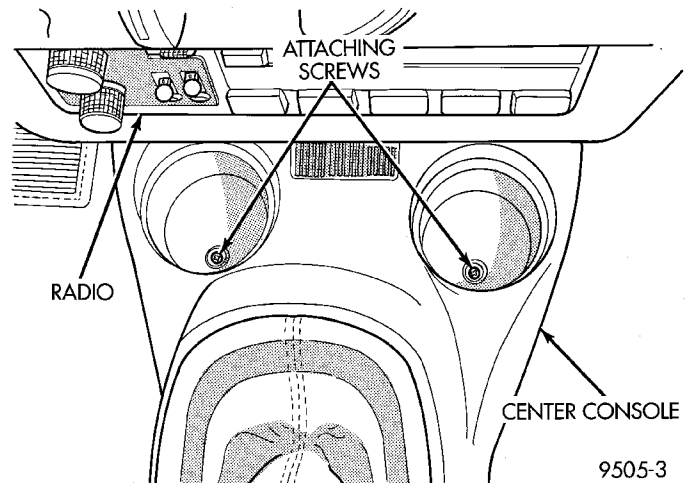

Fig. 136 Center Console Front Attaching Screws
(2) Remove the 2 screws located in cup holders (Fig. 136) attaching front of center console to console bracket.
(3) Raise park brake lever as high as it will go for the clearance required to remove the center console.